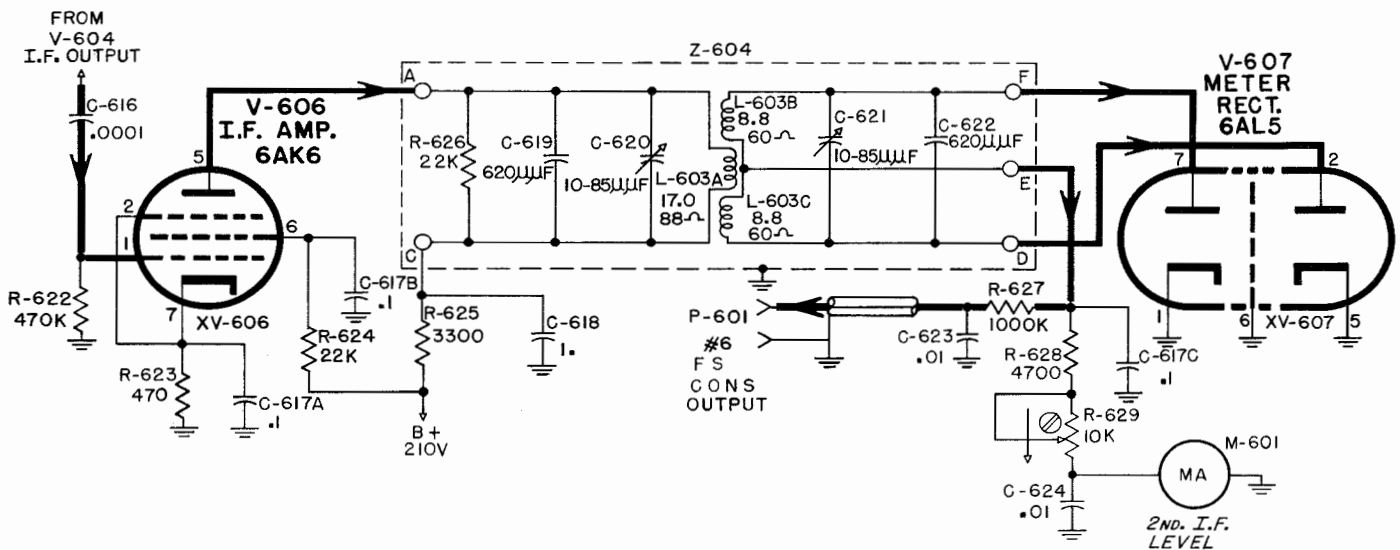

Figure 2-26. 50-kc. F.S. CONS Stages V-606 and V-607, Simplified Schematic Diagram
(3) 50 KC. F.S. C.O.N.S. CIRCUIT (AM-454/FRR-24). (See Figure 2-26).—The cathode follower output of V-604 is also coupled to the 50-kilocycle I.F. amplifier comprised of V-606 and Z-604 which provides further selectivity and voltage gain. Rectification of the 50-kilocycle intermediate frequency is accomplished by the use of a full-wave double-diode rectifier tube V-607. The rectified signal is fed through R-627 to connector J-602 for application to the frequency shift C.O.N.S. (carrier-off-noise-suppression) circuit. This voltage is used to actuate a relay in order to disable the FSK system during the absence of frequency-shift signals. Bias for V-606 is obtained across resistor R-623 bypassed by capacitor C-617A. Screen voltage is applied through resistor R-624 bypassed by capacitor C-617B. Plate voltage is sup-